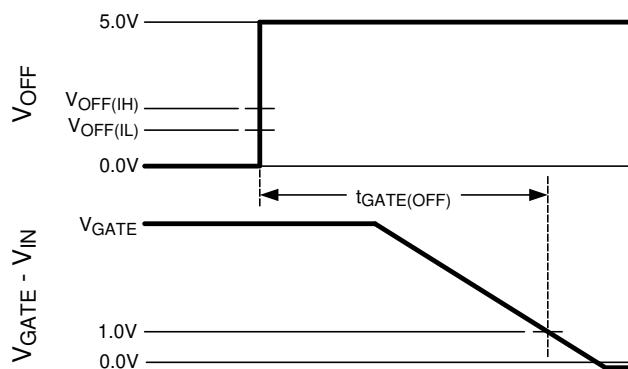
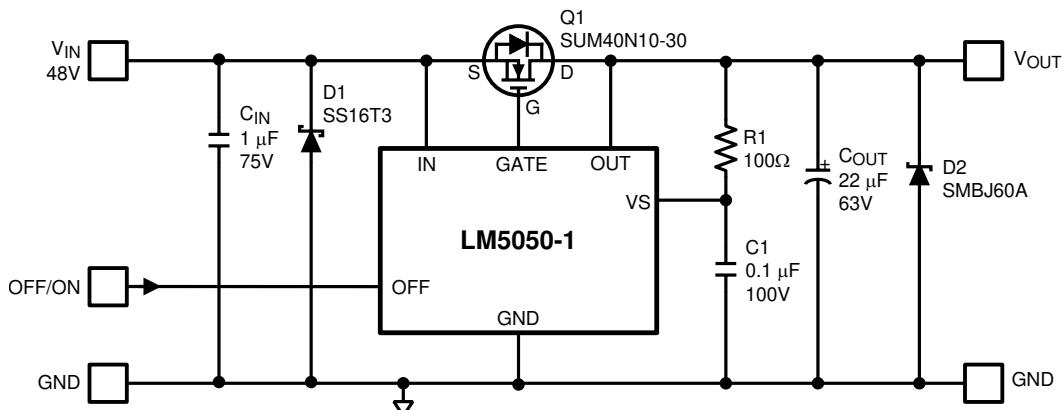

Figure 2. Gate OFF Timing for OFF Pin Low to High Transition
Figure 24. Typical Application With Input and Output Transient Protection Schematic
(3) Time from V_{OFF} voltage transition from 0 V to 5 V until GATE pin voltage falls to $V_{IN} + 1 \text{ V}$. See Figure 2.
Blocking diodes are commonly placed in series with supply inputs for the purpose of ORing redundant power sources and protecting against supply reversal. The LM5050 replaces diodes in these applications with an N-MOSFET to reduce both the voltage drop and power loss associated with a passive solution. At low input voltages, the improvement in forward voltage loss is readily appreciated where headroom is tight, as shown in Figure 2. The LM5050 operates from 5 V to 75 V and it can withstand an absolute maximum of 100 V without damage. A 12-V or 15-A ideal diode application is shown in Figure 24. Several external components are included in addition to the MOSFET, Q1. Ideal diodes, like their non-ideal counterparts, exhibit a behavior known as reverse recovery. In combination with parasitic or intentionally introduced inductances, reverse recovery spikes may be generated by an ideal diode during an reverse current shutdown. D1, D2 and R1 protect against these spikes which might otherwise exceed the LM5050 100-V survival rating. COUT also plays a role in absorbing reverse recovery energy. Spikes and protection schemes are discussed in detail in the Short Circuit Failure of an Input Supply section.
Table 1 shows the parameters for Figure 24